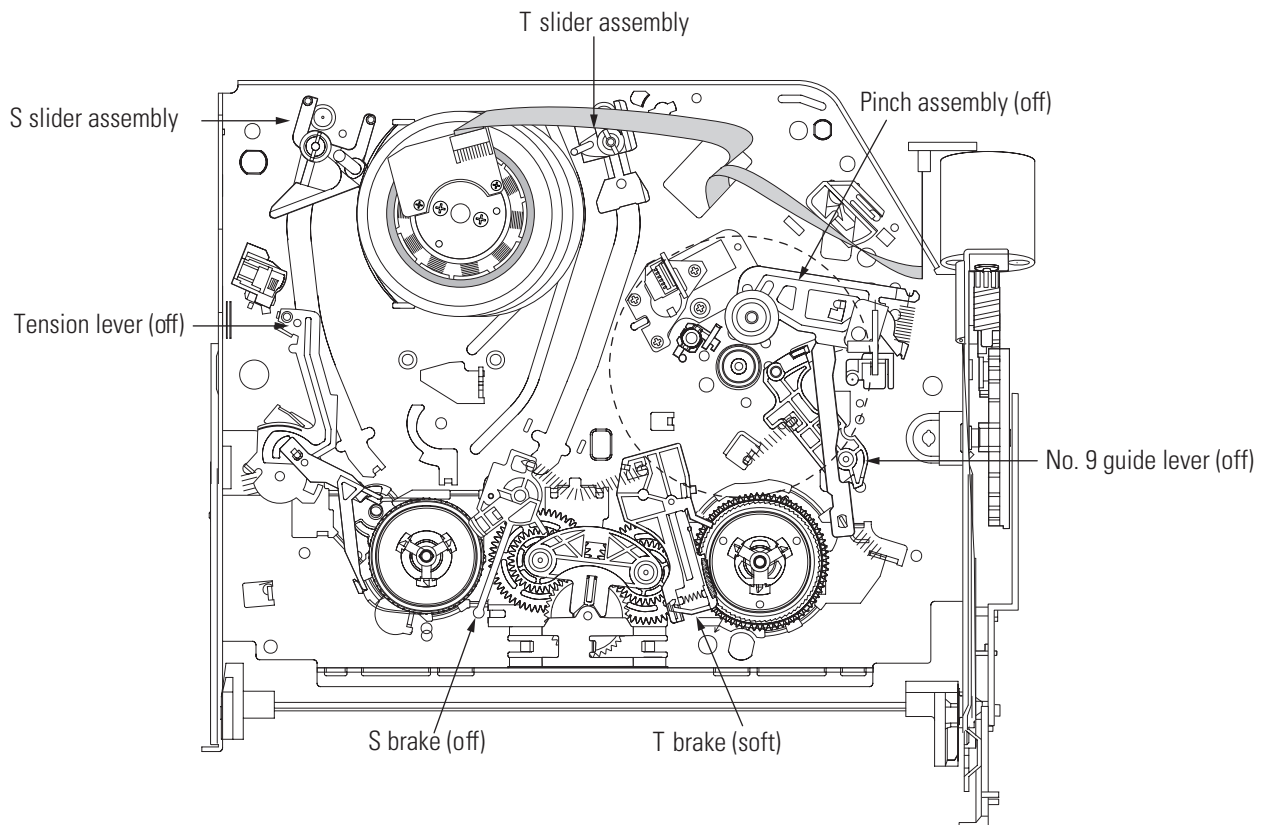

Fig. 15-26 Stop Mode (Position V)
- (1) The cam slider is in the stop mode (position V)(Fig. 15-26)and each motor stops.
- (2) The mechanism status is as follows :
- (1) When the [STOP] button is pressed in the REW mode, the mechanism enters the playback standby mode.
- (2) IC601 makes the loading motor rotate in the reverse direction and stops at the position V(Fig. 15-26).